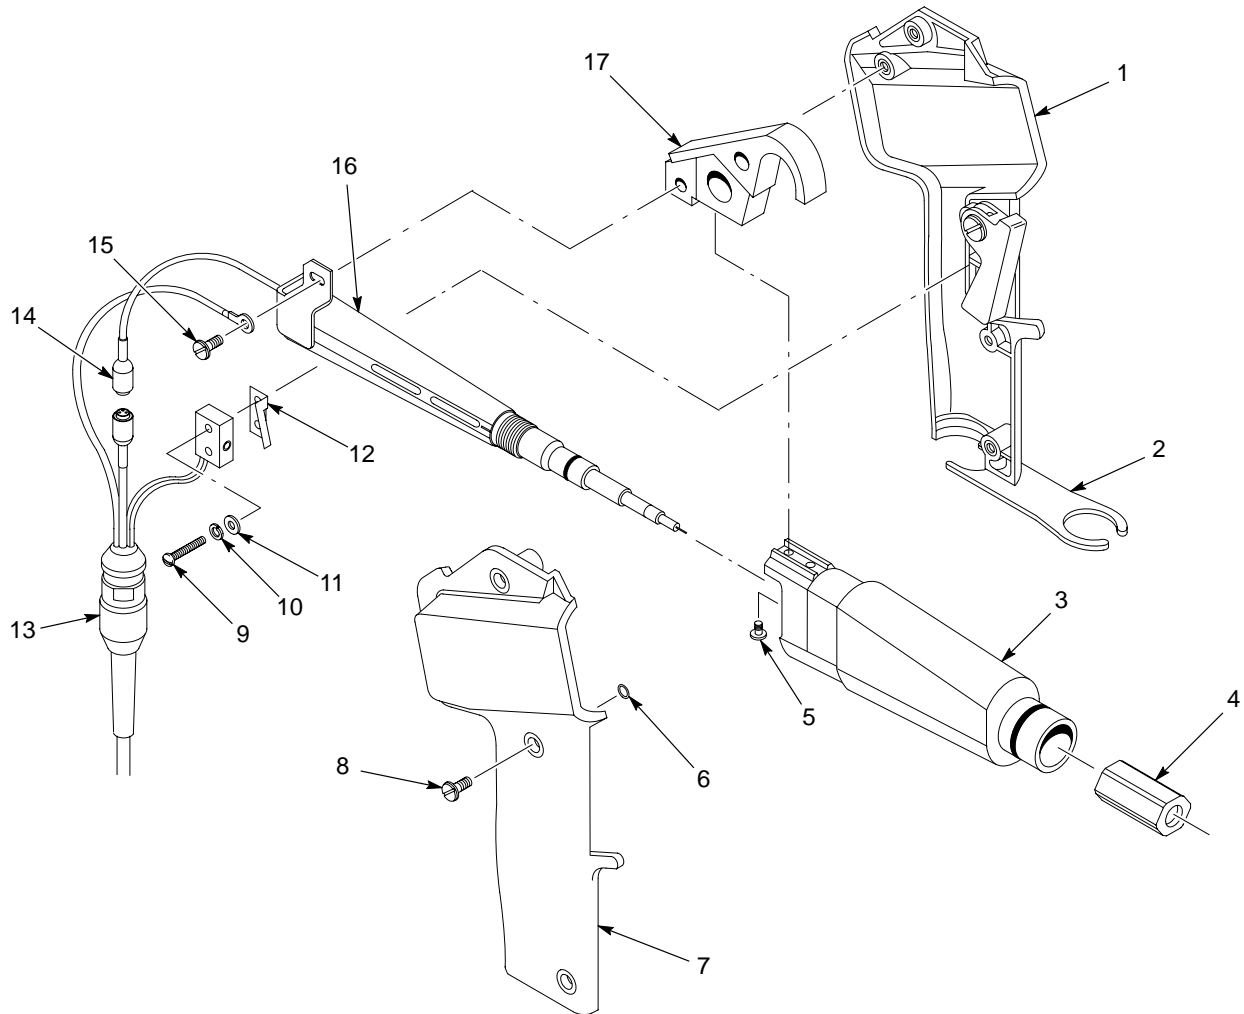

Figure 7 Multiplier and Cable Replacement
2. See Figure 7. Loosen the three captive screws (8) in the cover (7). The O-rings (6) hold the screws in the cover. Lift the cover off the handle (1).
3. Remove the screw (15) securing the multiplier heat sink bracket to the hanger (17). Remove the cable ground wire.
4. Loosen the connector swivel nut and disconnect the cable (13) from the multiplier connector (14).
5. Remove the extension (3) and multiplier/resistor probe assembly (16) from the handle.
6. Loosen and remove the cable nut (4). Use a wrench if necessary.
8. If you are replacing the old extension with the new one included in the kit, remove the two screws (5) that secure the hanger (17) to the extension and remove the hanger. Install the hanger on the new extension.
2. See Figure 7. Remove the two screws (9), lock washers (10) and flat washers (11). Remove the trigger switch and actuator (12) from the handle (1).
3. Rotate the hose bracket (2) slightly and release the cable. Note how the cable fits into the hose bracket.
4. Fit the new cable into the hose bracket and route the ground wire around the end of the multiplier. Secure the ground wire to the hanger (17) with the screw (15).
5. Connect the cable to the multiplier connector (14). Arrange the wiring so that it will not be pinched between the handle and the cover when the cover is installed.
7. Install the cover (7) on the handle.